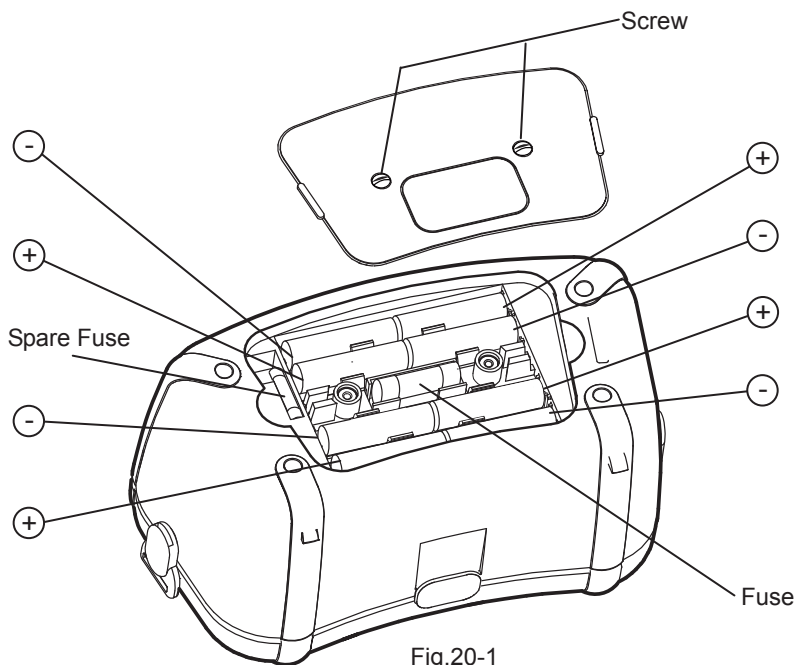

Fig.20-1
- (1) Power off the instrument and disconnect all test leads from the terminals.
- (2) Unscrew two screws and remove the battery compartment cover. (Fig. 20-1)
- (3) Replace all eight batteries with new ones at once. Observe correct polarity when inserting new batteries, Battery: Size AA Alkaline battery (LR6) x 8 pcs.
- (4) Attach the battery compartment cover, and secure it with the two screws,
- (1) If the instrument fails to operate in the continuity test mode, first disconnect the test leads from the instrument.
- (3) Take out the fuse and check for continuity with another continuity tester. If the fuse has blown, replace it with the spare fuse.
- (4) Attach the battery compartment cover, and secure it with the two screws.